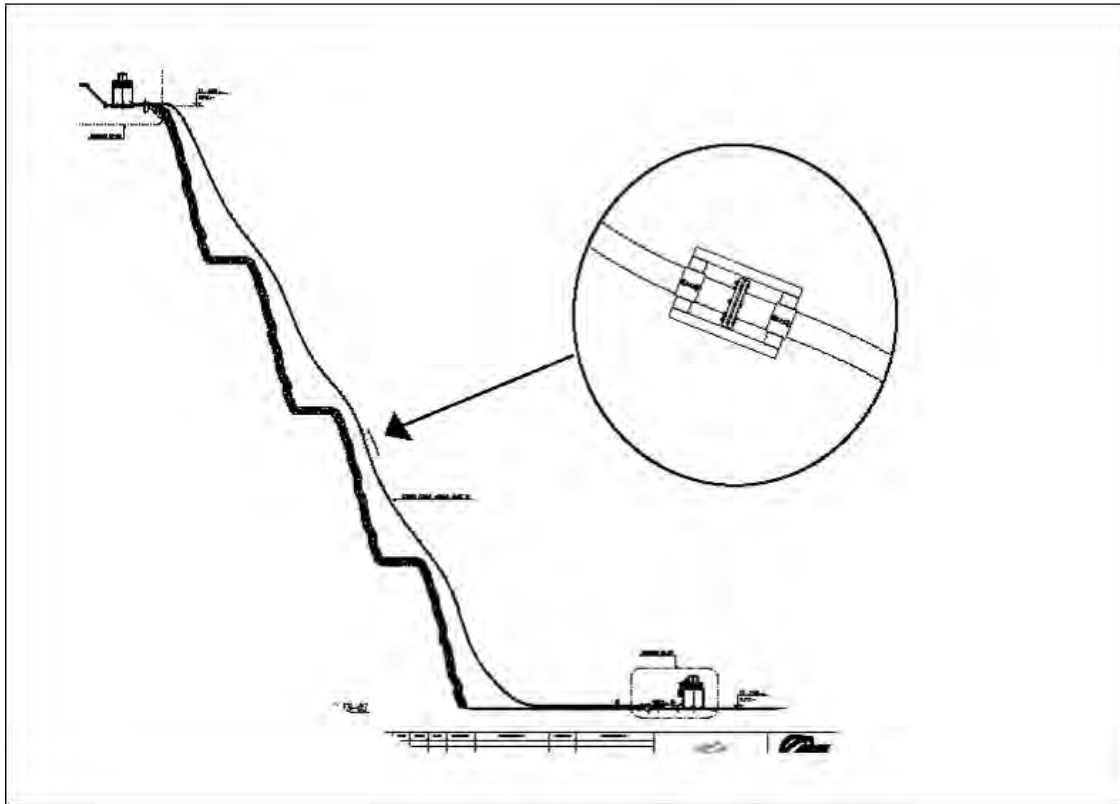

Figure 14. Using a Fixpoint Bridge in a Dewatering line
- 7.6.16.1. The top and bottom ends of the PEX pipeline should be anchored by a Fixpoint – see **Figure 14**.